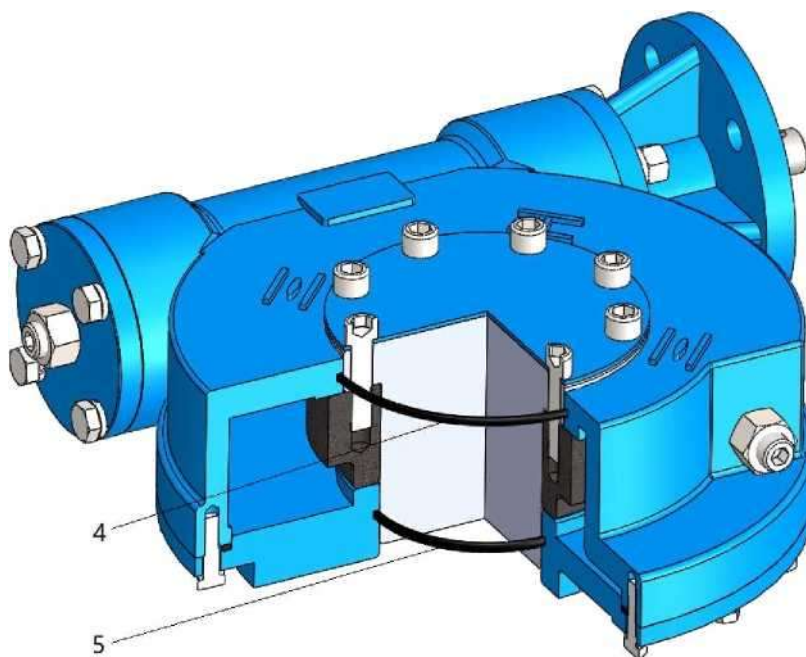

Figure 6 O-ring
1. O-rings "4" and "5" should be checked for damage, lubrication, and correct seating. If the O-ring is damaged, it should be replaced in a timely manner before installing the drive sleeve (see Figure 6).